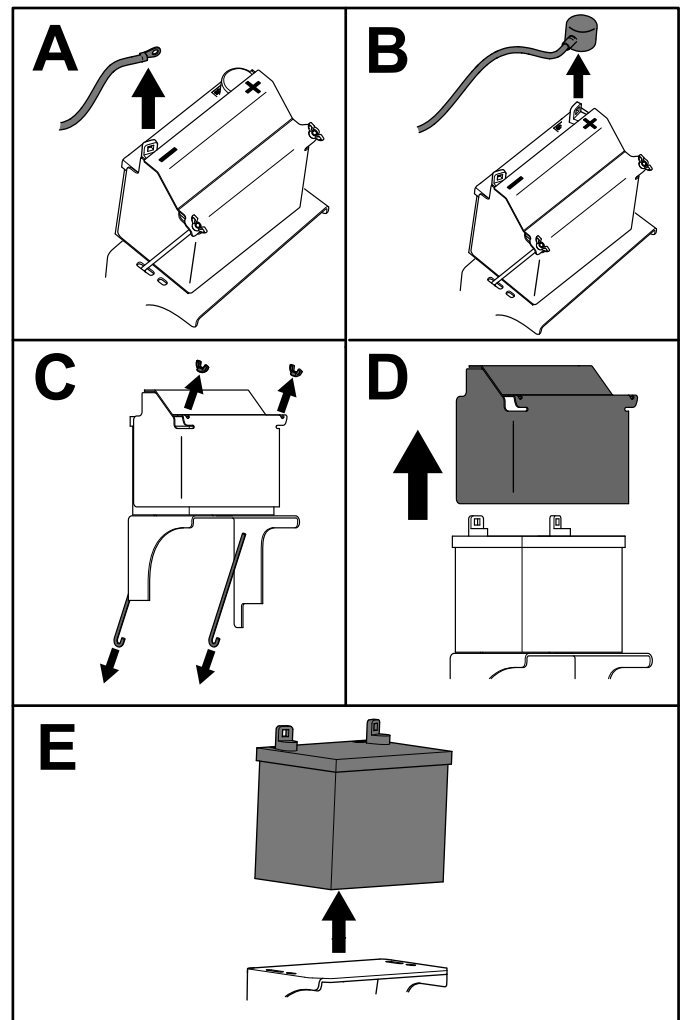

Figure 50
3. Remove the battery as shown in Figure 50.